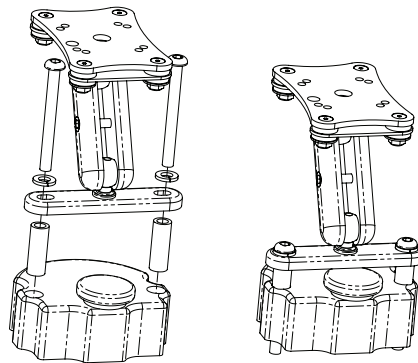

Figure 2
3. Using the *5/32" Hex Key*, fasten the *Base Plate* and *Stabilizer* to the bike with the *Spacers*, *M6 Lock Washers*, and appropriate length *M6 Screws* as shown in Figure 2.